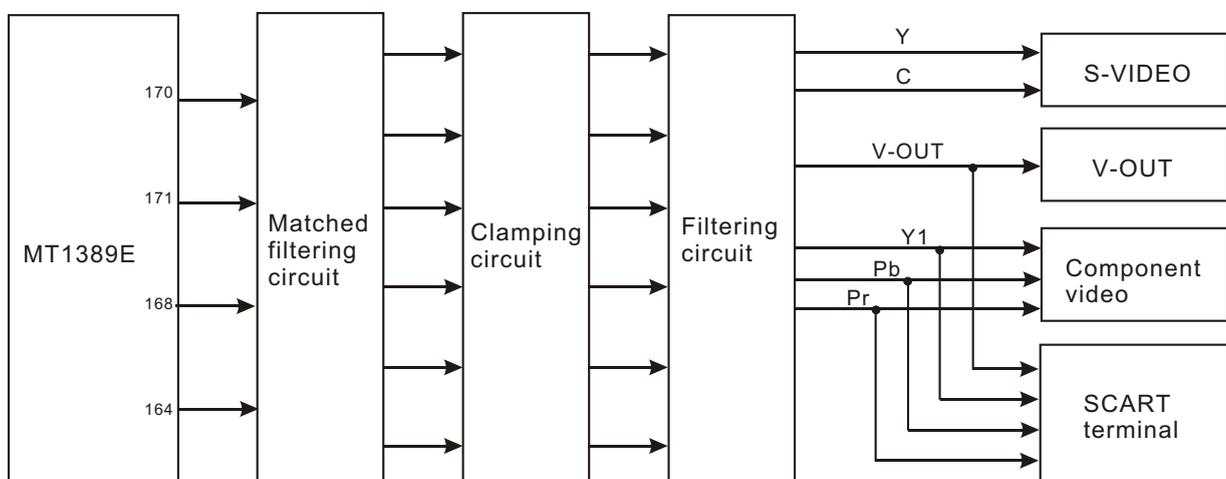

Figure 3.2.9.1 Video circuit block diagram
1. Video circuit block diagram is shown in the figure 3.2.9.1:
2. Working principle: brightness, chroma, CVBS and component video signals decoded by U201 (MT1389E), through low-pass filtering and clamping, are sent to the relevant terminal for output. Take Y signal as instance, we will introduce working principle of clamping circuit, shown in the figure 3.2.9.2: